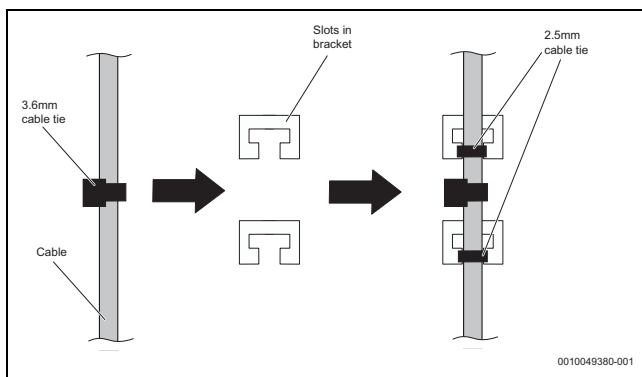

Fig. 33 Cable installation in cable bracket
- Attach cable to cable-tie bracket, to ensure 100N pull resistance, as follows: ensuring sufficient slack of cable to the board, fix a 3.6mm-wide cable tie to the cable and secure it to the plate with two 2.5mm-wide ties as in show in fig 33. The heads of the ties must not be on the same side of the plate. This ensures minimum movement of cable.